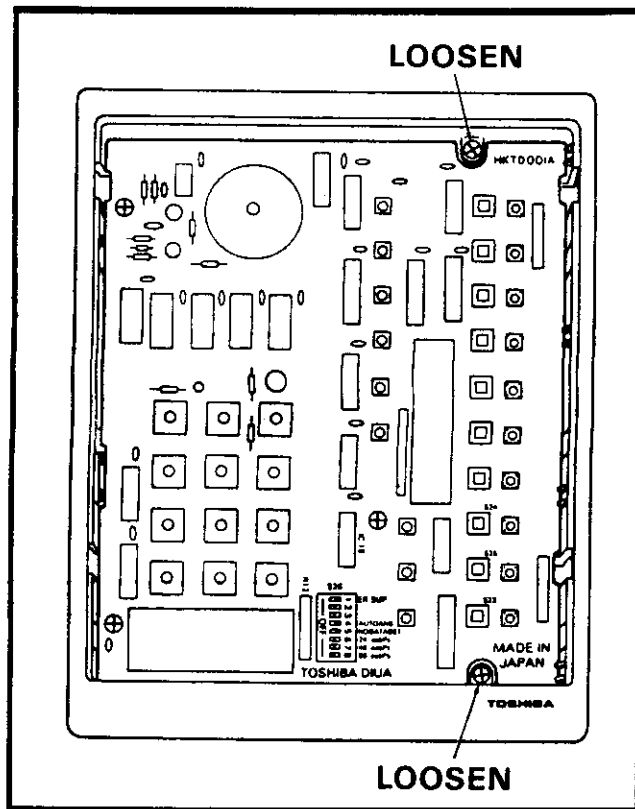

FIGURE 42—DIUA PCB
10.24 The DDIU-MA's faceplate must be removed in order to set the internal DIP switches. Remove the faceplate by carefully lifting the lower right corner and then pulling the faceplate away from the base. Set the following parameters as required at switch **S26** on the internal DIUA PCB (Figure 42):
- 1) Loosen the two screws found under the DDIU-MA's faceplate on the right side (top and bottom) of the DIUA PCB (Figure 42).